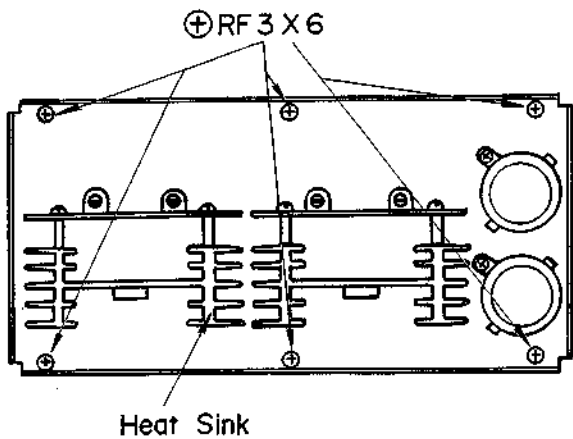

Fig. 2-7
- (b) Remove six Phillips-head screws(+ RF 3φx6) from power amplifier and heat sink block. See Fig. 2-7.